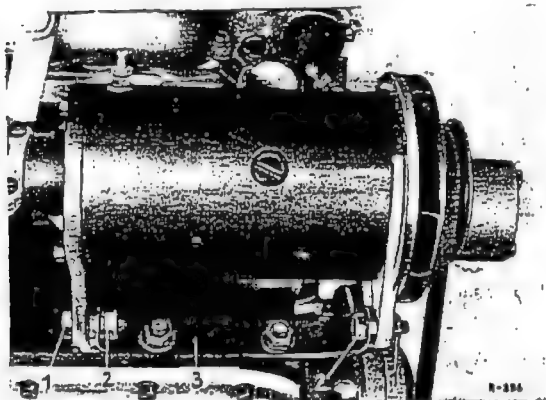

Fig. 15-11/1
3. Loosen the two nuts (2) on the hexagon screws (1) of the generator mounting (Fig. 15-11/1).